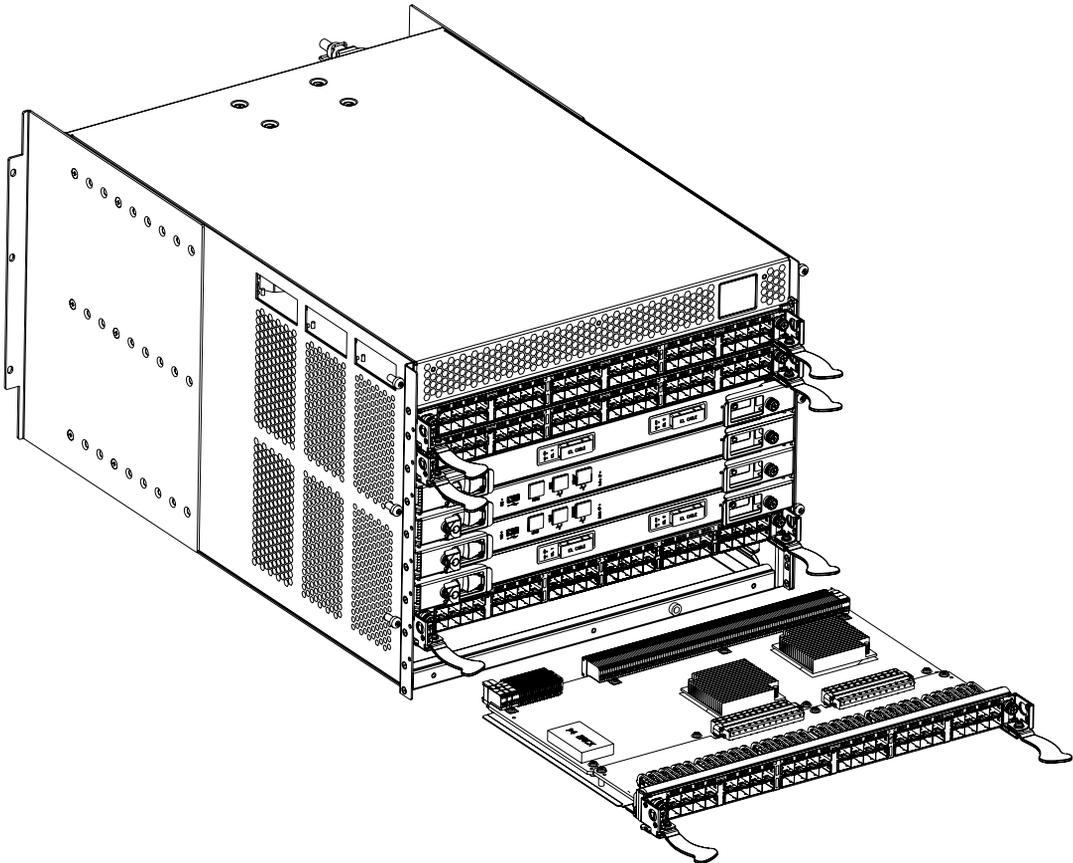

Figure 19 RRP: Port, application, or encryption blade (PB-DCX-48P port blade shown)
- **For PB-DCX-16P, PB-DCX-32P, PB-DCX-48P port blades, and PB-DCX-16EB encryption blade:** Unscrew the two thumb screws from the top and bottom ejectors on the blade using the Phillips screwdriver. Unscrew the top thumb screw until it pops out. This initiates a hot-swap request. Adjust the ejectors to the open position (Figure 19 on page 93).
- **For PB-DCX-16P, PB-DCX-32P, and PB-DCX-48P port blades, and PB-DCX-16EB encryption blade:** Open the ejectors. Pull the blade out of the chassis using the ejectors (Figure 19 on page 93).